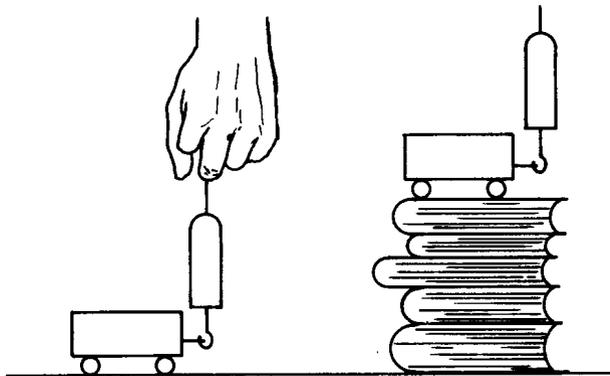

Figure 6-24
1. With the spring scale lift the cart from the table to the top of a pile of four or five books about 20 to 25 cm in height (Fig. 6-24).